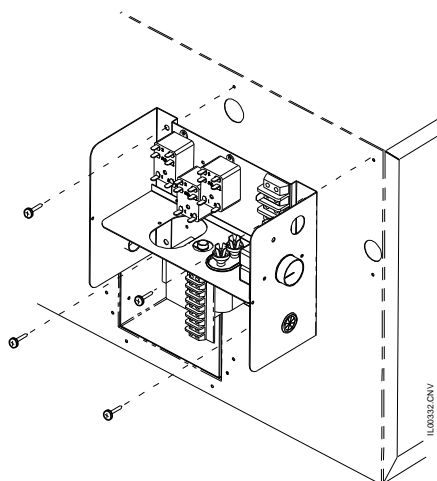

Figure 12. Mounting the Control Box.
To install, first remove the two knockouts on the side or top of the cabinet, where it will be installed. Mount the control box using four (4) sheet metal screws as shown in Figure 12. Connect the wiring as required in the wiring section and the control box manual.